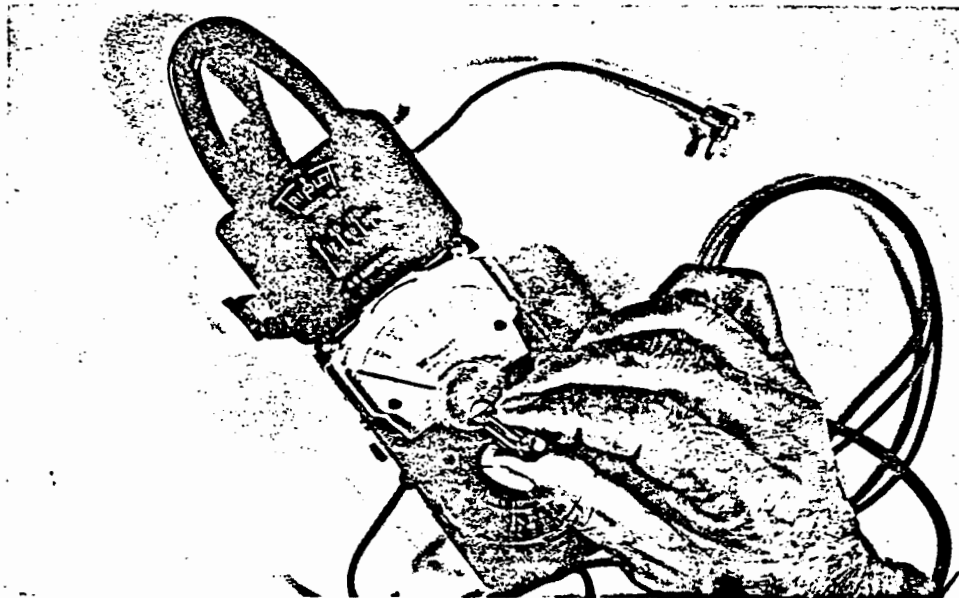

FIGURE 2 — Zero Adjust
- A. Adjust the meter to read zero (Refer to Figure 2).